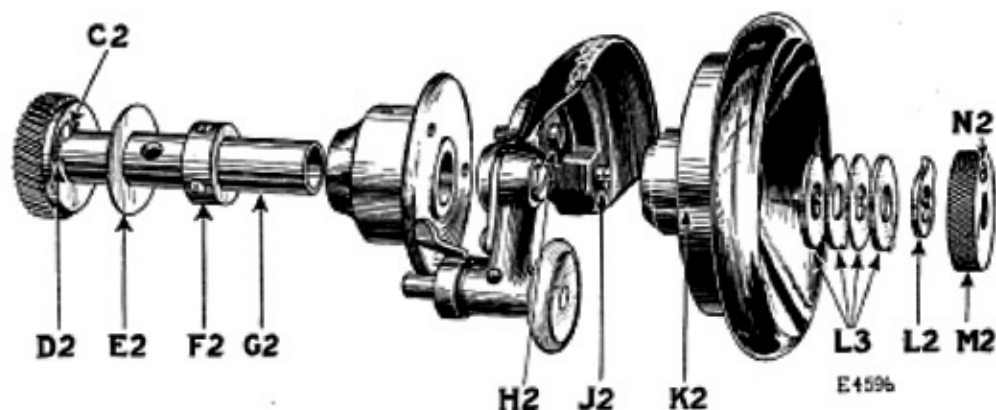

FIG. 17. VIEW OF PARTS REMOVED FROM THE MACHINE SHOWING CLUTCH ROLLER AND CLUTCH SPRING
1. Worn clutch roller (C2, Fig. 17).
2. Weakened or broken clutch spring (D2, Fig. 17). (The clutch spring should be strong enough to force the clutch roller against the bearing surface of the clutch gear).
Loosen the screw (N2, Fig. 17) in the stop motion thumb nut (M2, Fig. 17) at the right of the balance wheel and unscrew the
thumb nut (M2). Then remove the washer (L2, Fig. 17), the four washers L3, loosen the two set screws in the hub of the balance wheel and remove the balance wheel. Take out the two screws (H2 and J2, Fig. 17) which fasten the bobbin winder bracket and belt cover to the machine, and slide the bracket off the arm shaft, being careful not to spring the arm shaft. Withdraw the bushing (G2, Fig. 17)
upon which the gear clutch is mounted, then loosen the two set screws in the collar (F2, Fig. 17, page 18) and slide the collar and washer (E2, Fig. 17) away from the gear clutch. Remove the roller (C2, Fig. 17) and spring (D2, Fig. 17) and thoroughly clean the spring and roller bearing in the gear clutch.
Replace the spring and roller in the bearing in the gear clutch, being careful to see that the spring bears evenly against the roller. Place the washer (E2, Fig. 17) as closely as possible to the gear clutch without causing the gear to bind, then fasten the collar against the washer (E2) by means of the two set screws.
Replace the bushing (G2, Fig. 17) on the arm shaft. Then replace the bobbin winder bracket and belt cover and firmly fasten it by means of the two screws (H2 and J2, Fig. 17). Replace the balance wheel and before tightening it, slip washers (L3, Fig. 17) over the end of the arm shaft in the following order: first, the thick washer with inside key in keyway of arm shaft; second, the thin washer with outside key in keyway of balance wheel; third, the thin washer with inside key in keyway of arm shaft; fourth, the thick washer with outside key in keyway of balance wheel. Next slip washer (L2, Fig. 17) over the end of arm shaft with the key in the keyway of the shaft. Then replace the stop motion thumb nut (M2, Fig. 17) and screw it on the shaft as far as it will go, after which tighten the screw (N2, Fig. 17) in the stop motion thumb nut. See that the screw (N2) does not bear on the projection on the outside of the washer (L2), also that there is sufficient clearance between the projection and the screw to release the balance wheel, or to lock it by means of the stop motion thumb nut. If the screw (N2) bears on the projection, or there is not sufficient clearance, loosen the screw (N2), remove the stop motion thumb nut and reverse the position of the washer (L2) on the shaft, then replace the stop motion thumb nut and firmly tighten the screw (N2).